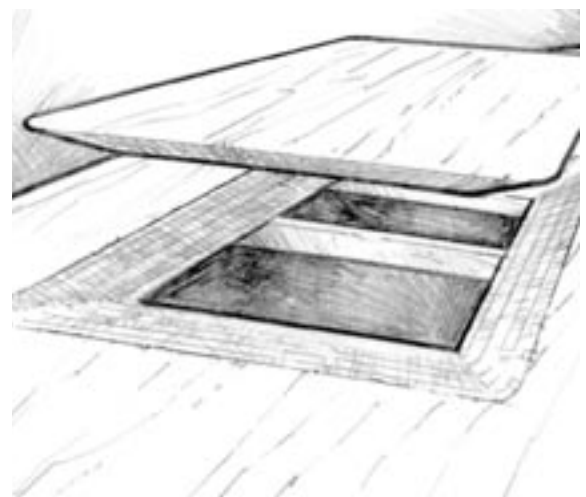

Figure 6-13 Clamp a new repair patch in position with staples or screws.
- a. Use the disc sander to machine a bevel on the inside edge of the replacement panel to match the bevel on the opening. Dry fit the new panel to fit slightly below the existing surface (*Figure 6-13*).
6. Clamp the new panel in position with temporary staples or screws (*Figure 6-13*). Permanent fasteners should be non-corroding and pilot holes should be wet out with epoxy. Clean up excess epoxy before it cures. Allow the epoxy to cure thoroughly before removing clamps. Bond multiple thinner layers in place, one at a time, following the same procedure. Use a thinner epoxy/filler blend on the flat bonding areas between the layers.